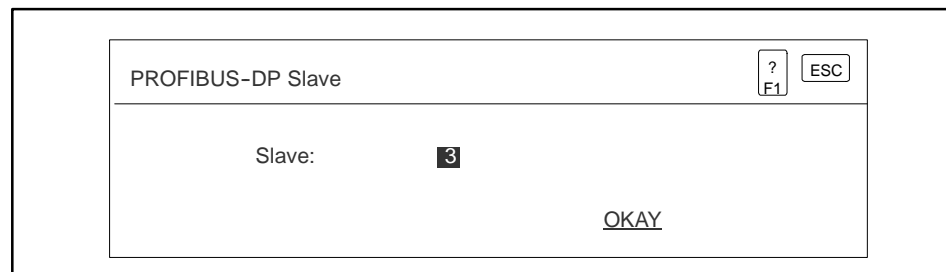

Figure 9-19 Specifying the Slave Address
4. Press **Enter** twice. The PROFIBUS-DP Slave dialog box appears (Figure 9-19).